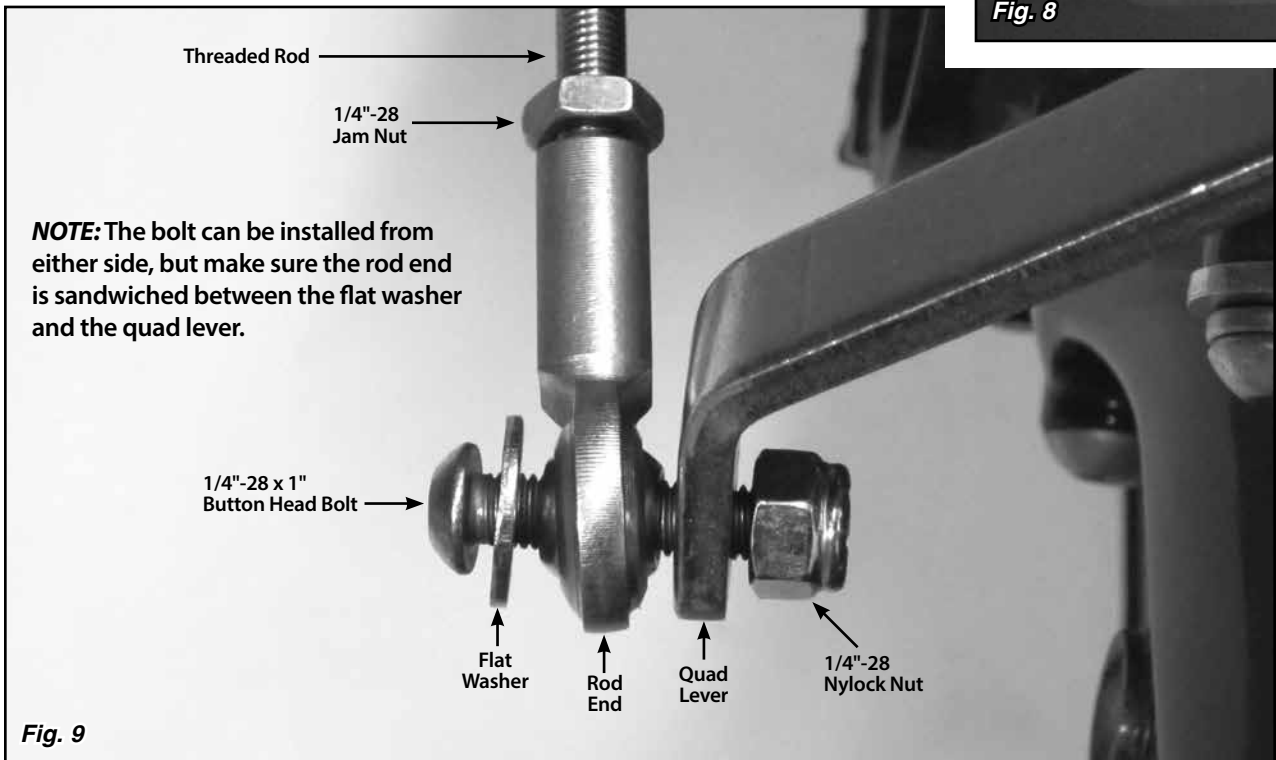

Fig. 9
Step 14: Verify that both 1/4"-28 jam nuts are on the threaded rod, and install a rod end onto each end of the threaded rod. Attach the threaded rod assembly to the **inside** of the trans gear lever and to the **outside** of the quad lever using the 1/4"-28 x 1" button head bolts, flat washers, and nylock nuts as shown in **Fig. 9** and **Fig. 10**. The button head bolts can be installed from either direction, but make sure each rod end is sandwiched between the flat washer and the trans gear lever or quad lever.